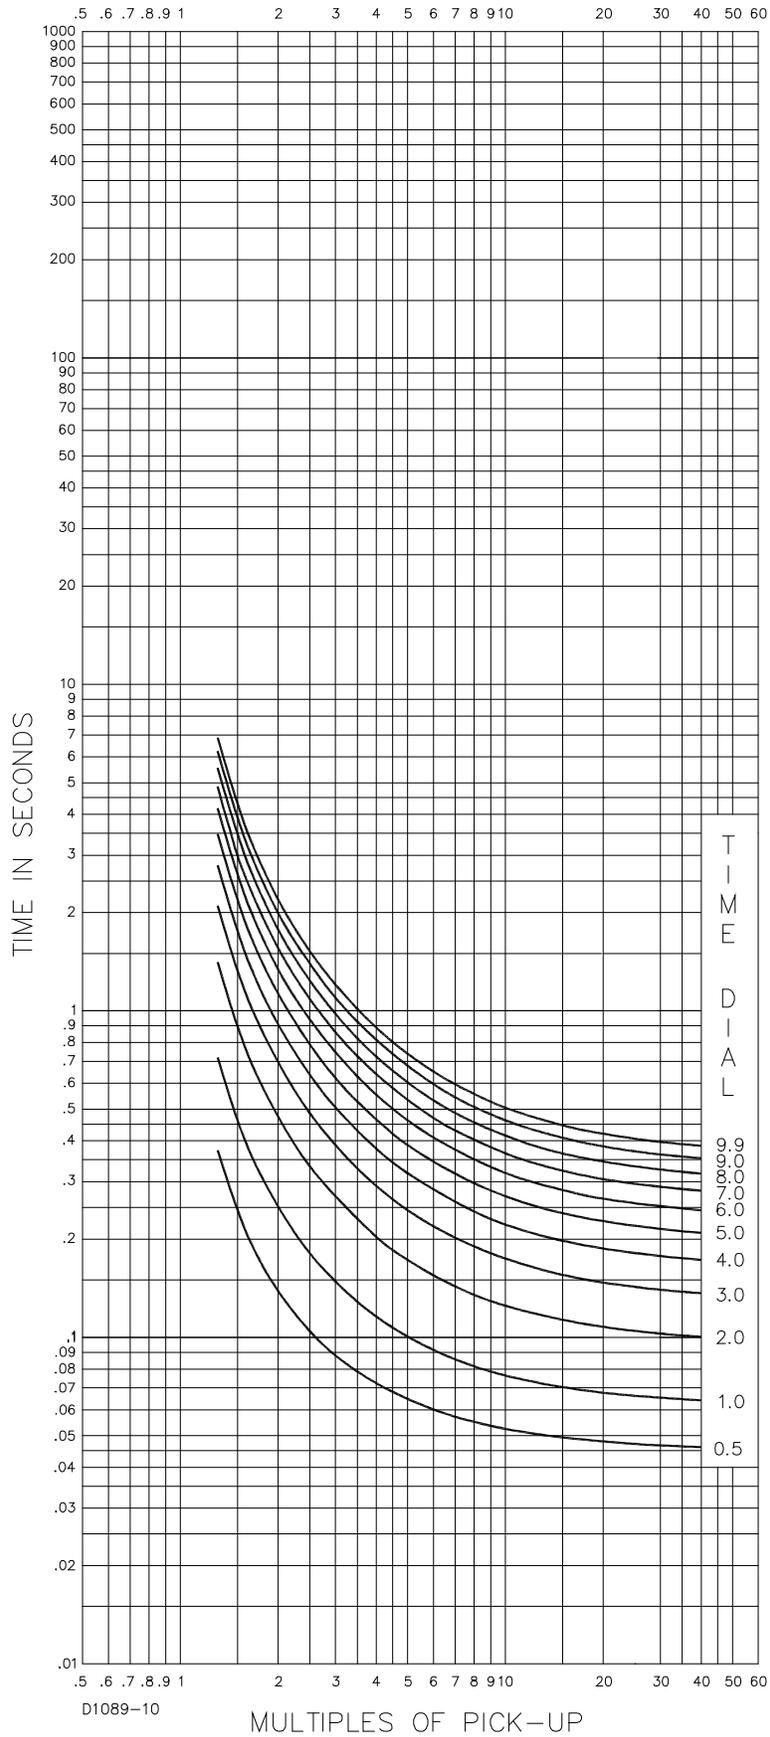

Figure 7-1. S-Short Inverse Curve (SW3-3 Off, Similar to ABB CO-2)
- S-Short Inverse (SW3-3 OFF, Similar to ABB CO-2): Figure 7-1